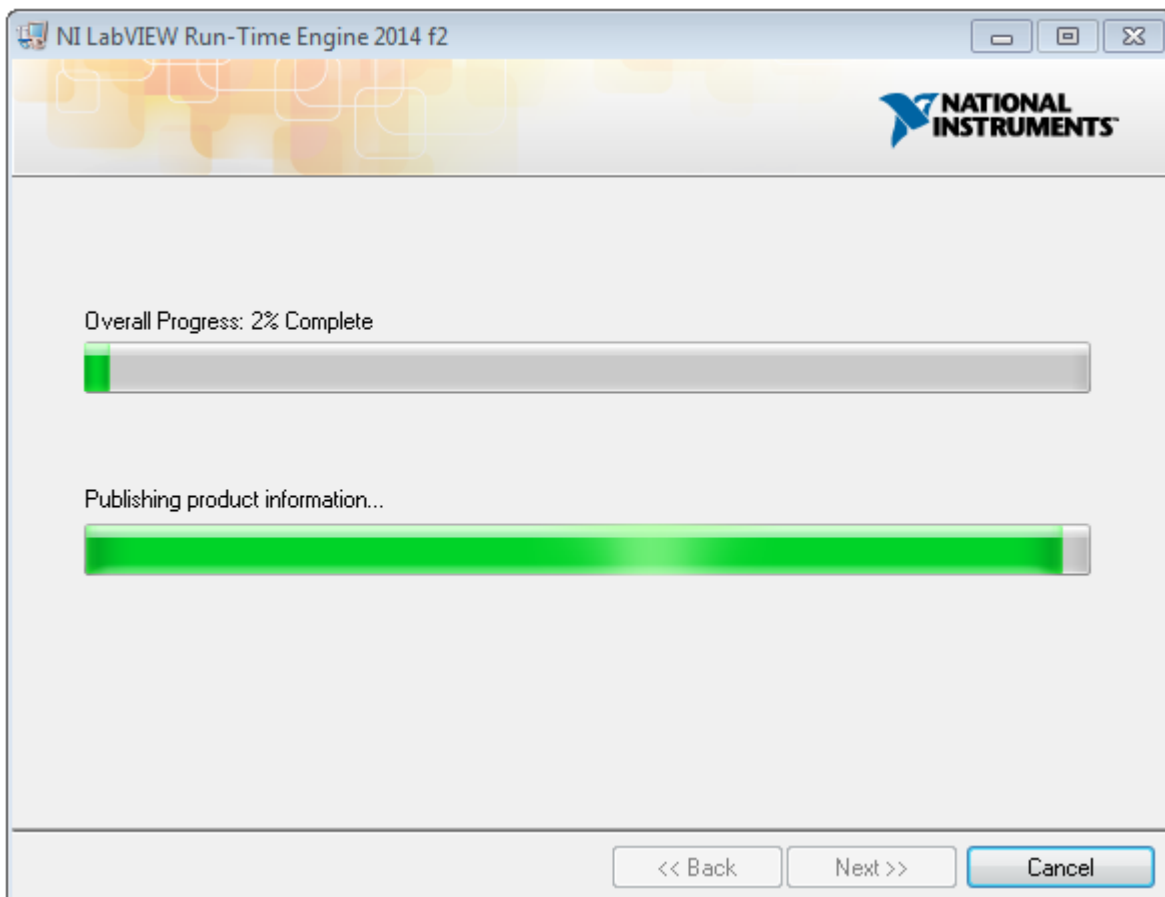

Figure 17. Installation of LabVIEW RTE in Progress
12. A display as shown in Figure 17 appears which indicates the progress of LabVIEW RTE installation.